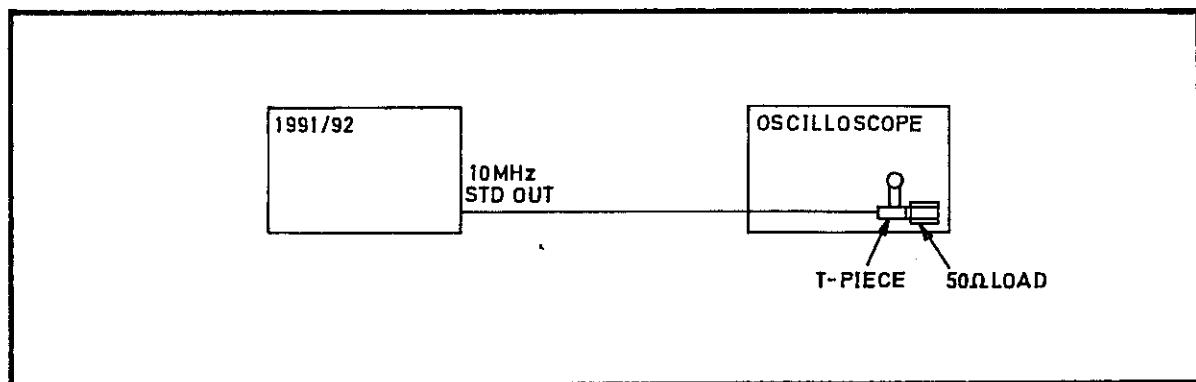

Fig 7.20 Connections for 10 MHz Standard Output Level PVP
- 55 (1) Connect the test equipment as shown in Fig 7.20.
- (2) Verify that the peak-to-peak amplitude of the displayed waveform is  $1.0 \text{ V} \pm 0.4 \text{ V}$ . Verify that the mark/space ratio is between 30:70 and 70:30.
- (3) Disconnect the test equipment.